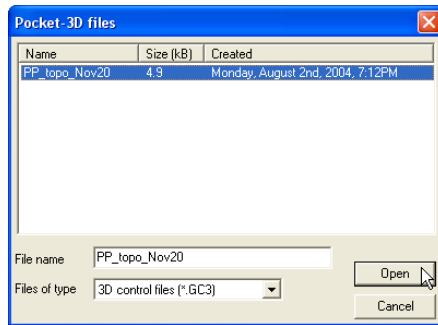

Figure 9-6. Select File and Click Open
2. On the ***Pocket-3D files*** dialog box, select the file type (*.gc3) and the desired file, then click **Open** (Figure 9-6).